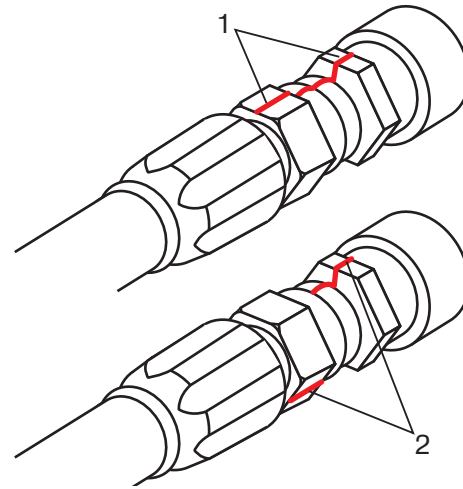

Figure 2-4. Flats Method Tightening
7. If a torque wrench cannot fit into the coupling area or if it is unavailable, flats method may be used to ensure that the coupling is properly tightened, as shown in Figure 2-4.